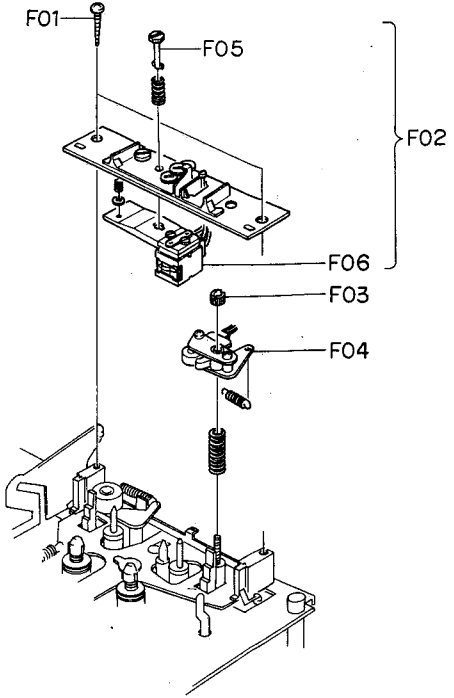

Fig. 3.2
- (1) Refer to Fig. 3.2 (Page 25). Remove Mechanism Ass'y referring to item 3.5 (Page 25).
- (2) Remove Flywheel Holder Ass'y and both Flywheel Assemblies referring to item 3.20 (Page 29).
- (3) Remove F01 and F02, then disassemble F03 (Sub Mechanism Chassis Ass'y).
Refer to Fig. 3.2.